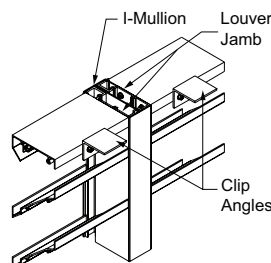

Fig. 3.4 Visible Mullion
3. For visible mullions, install I-mullion on right hand jamb (as viewed from the exterior). See fig. 3.4.